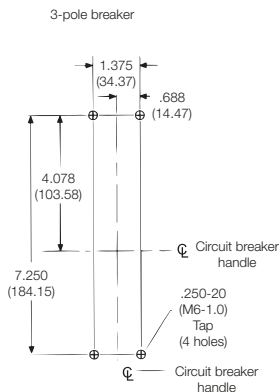
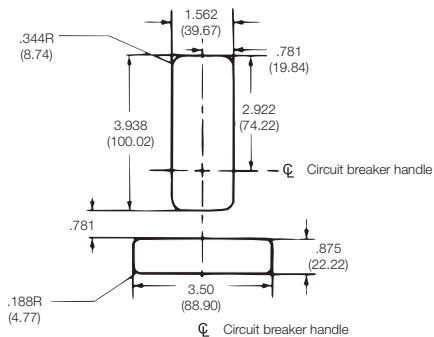

Figure 5: circuit breaker mounting bolt drilling plans
Figure 6: circuit breaker escutcheon dimensions
- For individual surface mounting, drill mounting panel using the drilling plan shown in Figure 5. For panelboard mounting, only load end support mounting holes are required. For deadfront cover applications, cut out cover to correct escutcheon dimensions (see Figure 6).